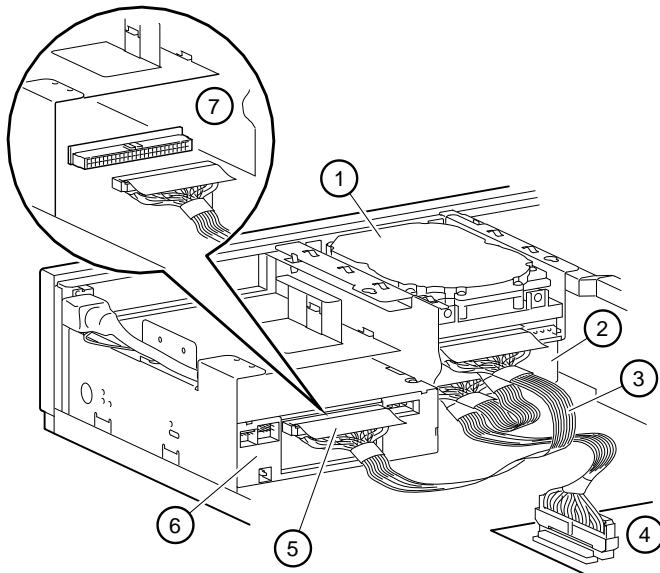

Figure 3-4. Internal SCSI Termination
SCSI drives are connected to a SCSI bus, which must be terminated at each end. Internally (inside the system box), the termination is set correctly at the factory. For example, Figure 3-4 shows a typical SCSI configuration. The internal SCSI cable ③ is plugged into the motherboard ④. The cable contains daisy-chained connectors for attaching devices such as a hard drive ① and other SCSI device ②. The other end of the SCSI cable ⑤ is terminated either by a CD drive ⑥ or the SCSI terminator plug ⑦.